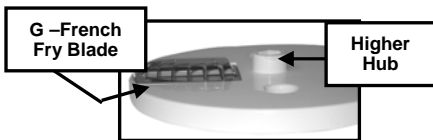

Fig. 15
- Using the finger holes in the French fry blade holder, fit it over the spindle and press firmly into place. (Fig. 15)